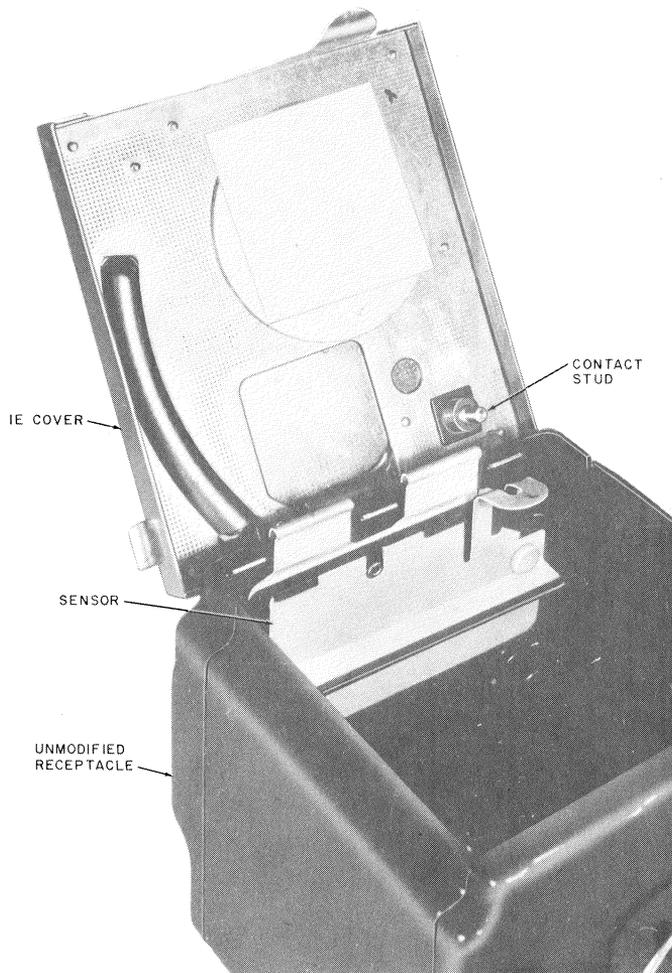

Fig. 5—Modified Coin Box
3.06 Replace existing coin box with a modified coin box (Fig. 5).